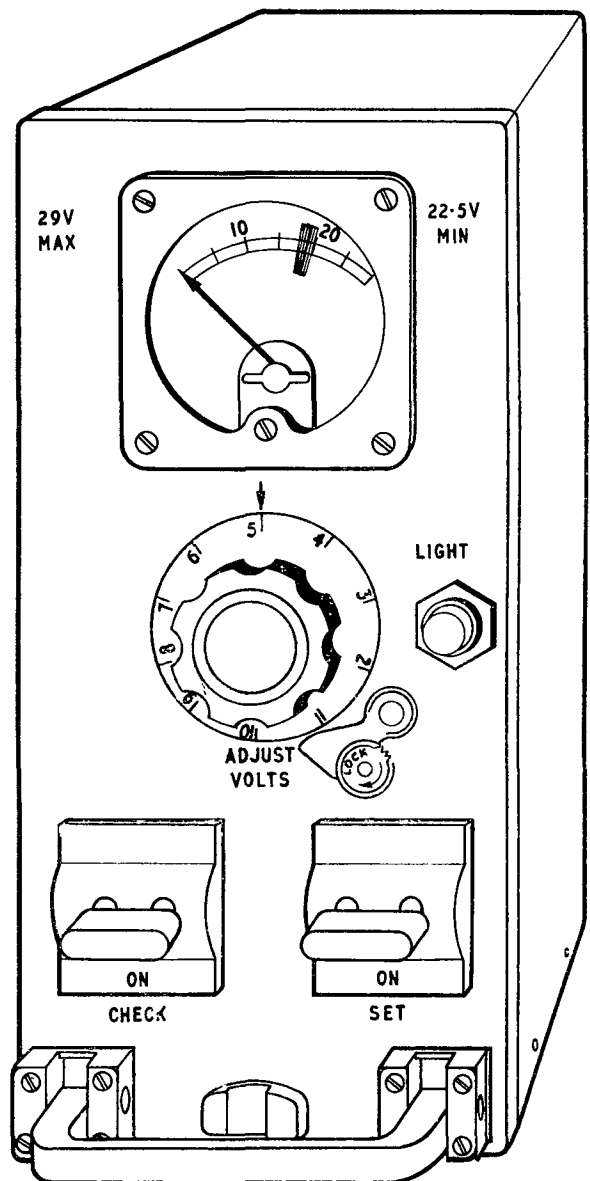

Fig. 1. Voltage regulator (5UC/6010)
4. On the front panel (*fig. 1*) are mounted the voltmeter and the following controls:—